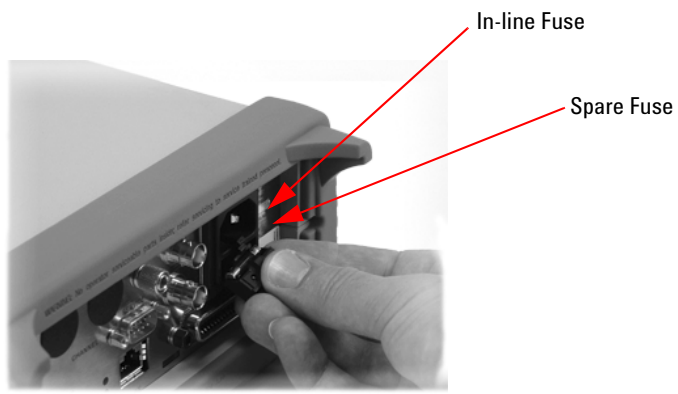

Figure 10-153 Replacing the fuse
- 1 Slide the fuse holder assembly from the rear panel as shown in Figure 10-153.
- 2 Install the correct fuse in the “In line” position as shown in Figure 10-153. (A spare fuse can be stored in the fuse holder assembly.)